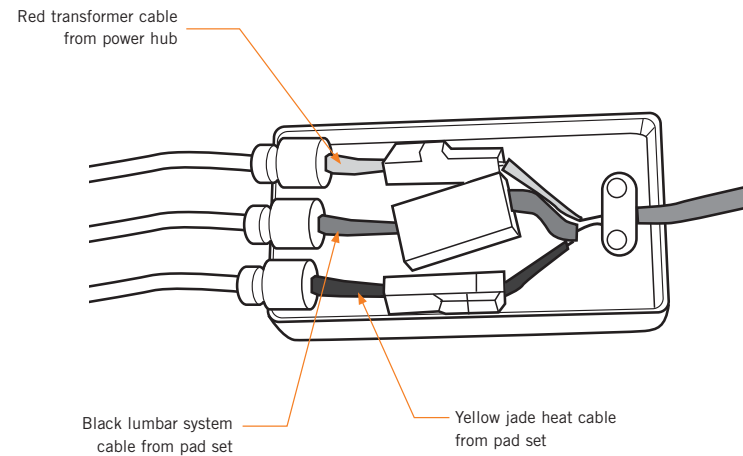

Fig.14
14. Matching the wire colors, connect the three connectors to the corresponding connectors in the connector box attached to the control panel cable. (yellow/yellow, red/red, black/black) (Fig.14).
15. Install the three cable strain reliefs into the connector box slots, push them all the way down, then snap the connector box cover into place to secure it (Fig.14).